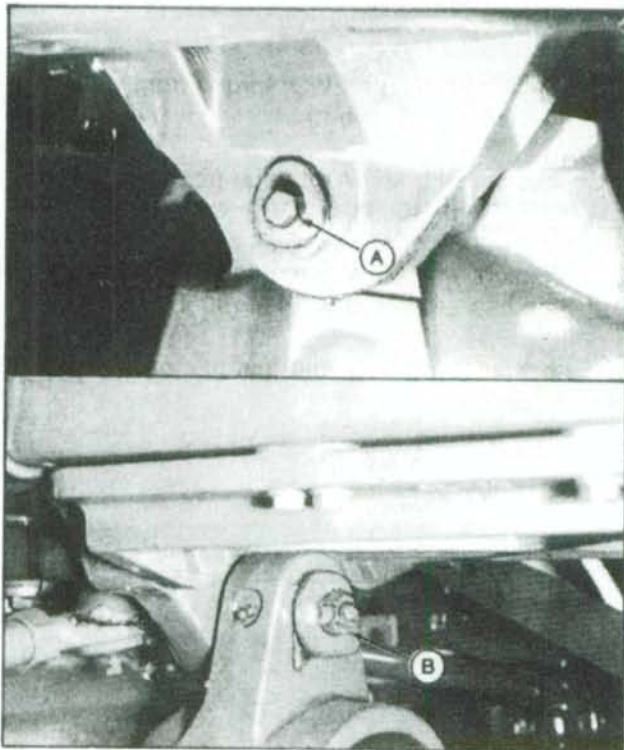

Fig. 10—Views showing front drive axle pivot bolts. Upper view shows front pivot bolt (A); lower view shows rear pivot bolt (B).
**9. REMOVE AND REINSTALL.** To remove front drive axle assembly, unbolt and remove front weights, if so equipped. Unbolt and remove shield and front drive shaft as outlined in paragraph 8. Install split stand JT05724 to side frame rails and support front of tractor. Install axle support stand D05007ST under front axle assembly. Remove front wheels and fenders, if so equipped. Disconnect tie rods from left and right steering arms. Refer to Fig. 10 and remove front pivot bolt (A) and rear pivot bolt (B). Take care not to lose shims on front pivot bolt. Move axle assembly rearward off the pivot pins, then lower axle and remove from under tractor.
rods from left and right steering arms. Attach a hoist to planetary, hub and steering knuckle assembly. Unbolt steering yoke from axle housing, then remove the assembly from axle housing. Remove opposite planetary, hub and steering knuckle using same procedure. Refer to Fig. 10 and remove front pivot bolt (A) and rear pivot bolt (B). Take care not to lose shims on front pivot bolt. Move axle assembly rearward off the pivot pins, then lower axle and remove from under tractor.